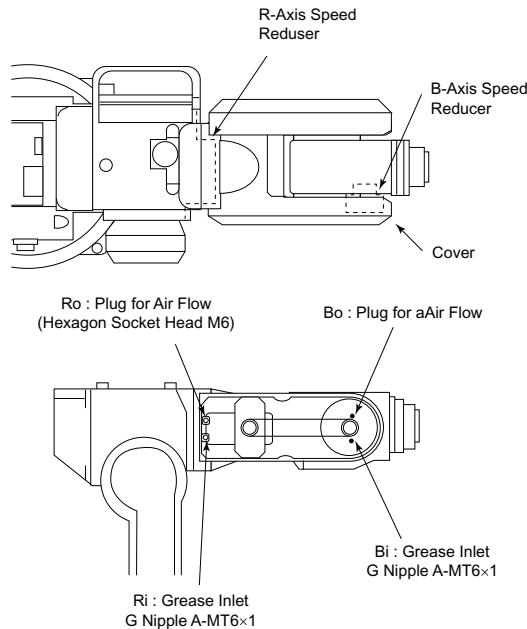

Fig. 27 R-Axis and B-axis Speed Reducer Diagram
2. Inject grease into the Ri and Bi grease inlet using a grease gun. (Refer to " Fig. 27 R-Axis and B-axis Speed Reducer Diagram").